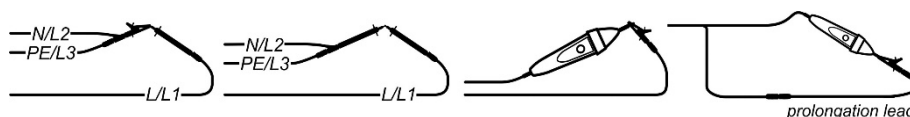

Figure 5.13: Shorted test cables
- ❑ Connect the test cables to the device and short-circuit the test cables (see figure 5.13.)